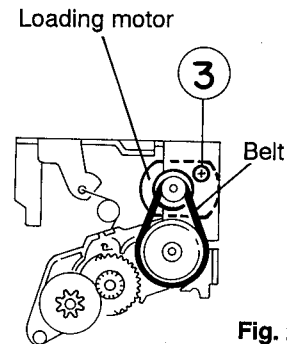

Fig. 2-15
2. Remove the one screw ③ retaining the loading motor (See Fig. 2-15).